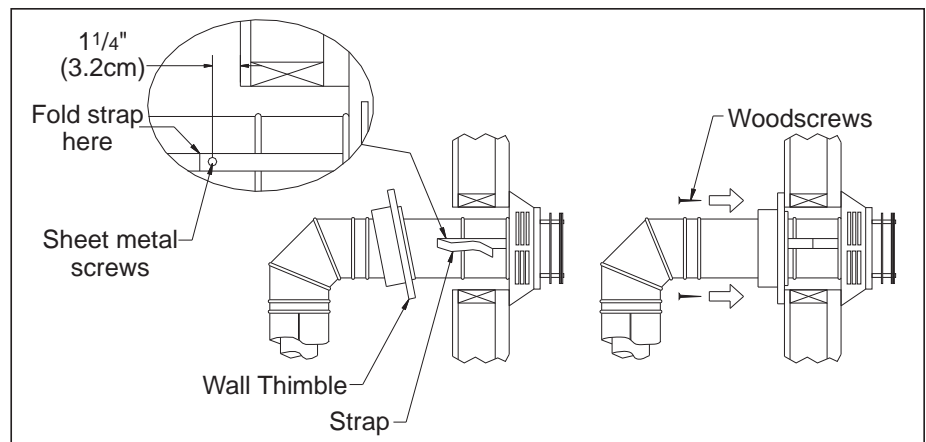

Figure 26: Installing Decorative Wall Thimble.
6. Slide the appliance and vent assembly towards the wall, carefully inserting the vent pipe into the cap assembly. It is important that the vent pipe extend into the vent cap a sufficient distance with a minimum of 1¼" (3.2cm) overlap. Secure the connection between the vent cap pipe and the vent cap by attaching the two sheet metal straps extending from the vent cap assembly into the outer wall of the vent pipe. Use the two sheet metal screws provided to connect the straps to the vent pipe. Bend any remaining portion of the sheet metal straps back towards the vent cap, so the decorative wall thimble will conceal it (see left image in Figure 26).
7. Slide the decorative wall thimble up to the wall surface and attach with the screws provided. Apply decorative brass or chrome trim if desired (see right image in Figure 26).